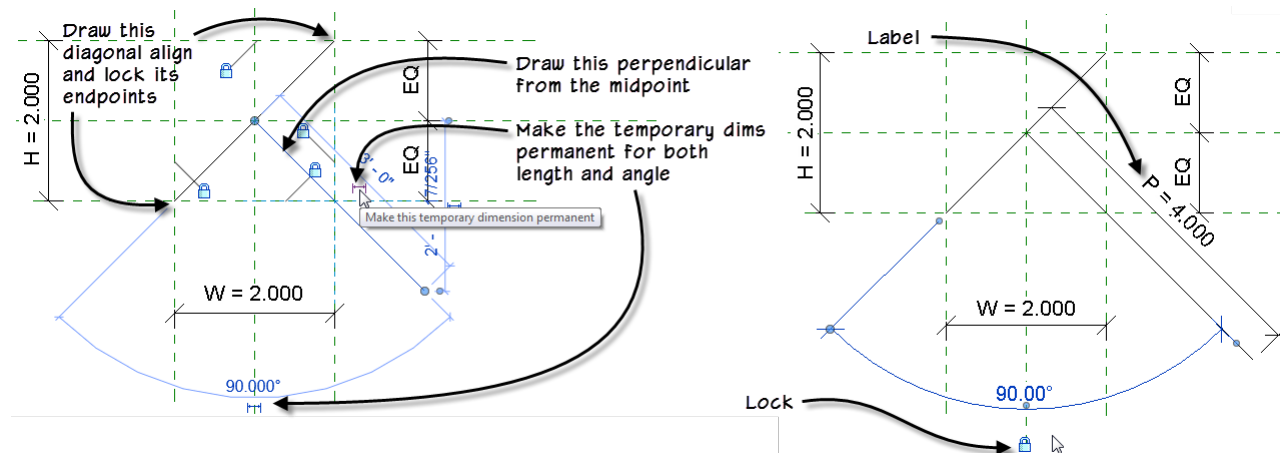

Figure 11— Build the rig in a Detail Item family
- ⇒ Lock the angle dimension to keep it at 90° (see Figure 11).
The sheet should still be open behind this view and should now show the image column and the *Corbu.png* image that we added (see Figure 11).